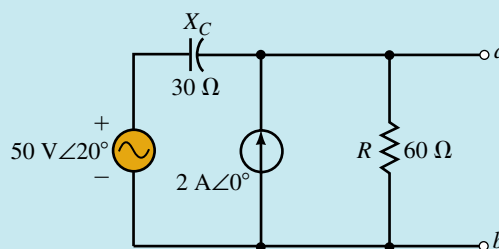

FIGURE 20-19
Step 1: Removing the branch containing $\mathbf{Z}_L$, we have the circuit of Figure 20-19.